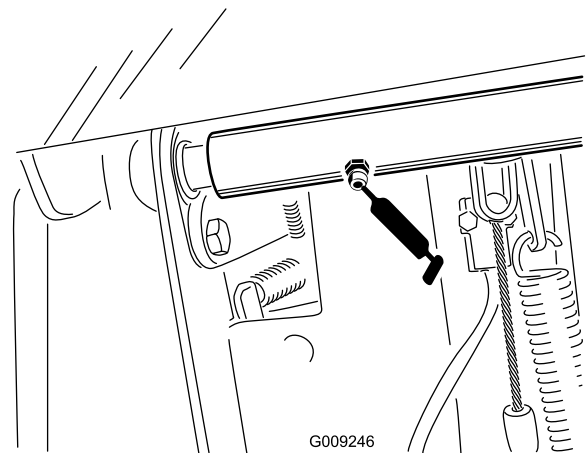

Figure 35
- 2 brake pedal pivot-shaft bearings (Figure 35)